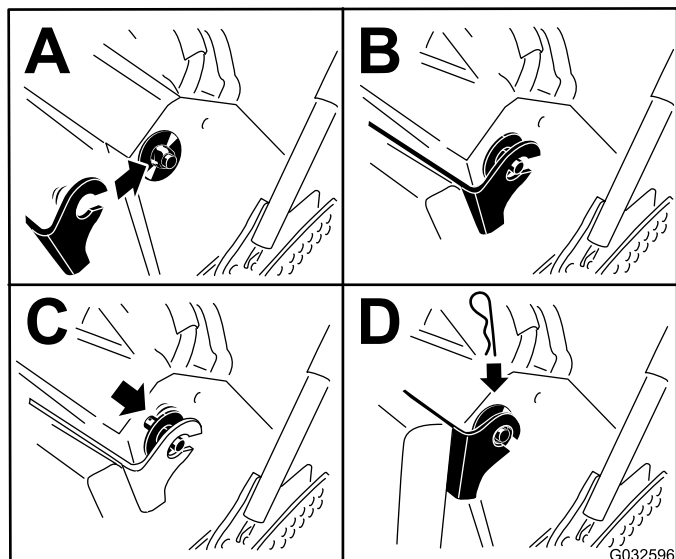

Figure 34
6. Raise the cushion and slide it onto the pins on both sides of the machine (Figure 34).
7. Slide the large washers with plastic bushings into the cushion pin bracket and secure them with a hairpin-cotter pin (Figure 34).